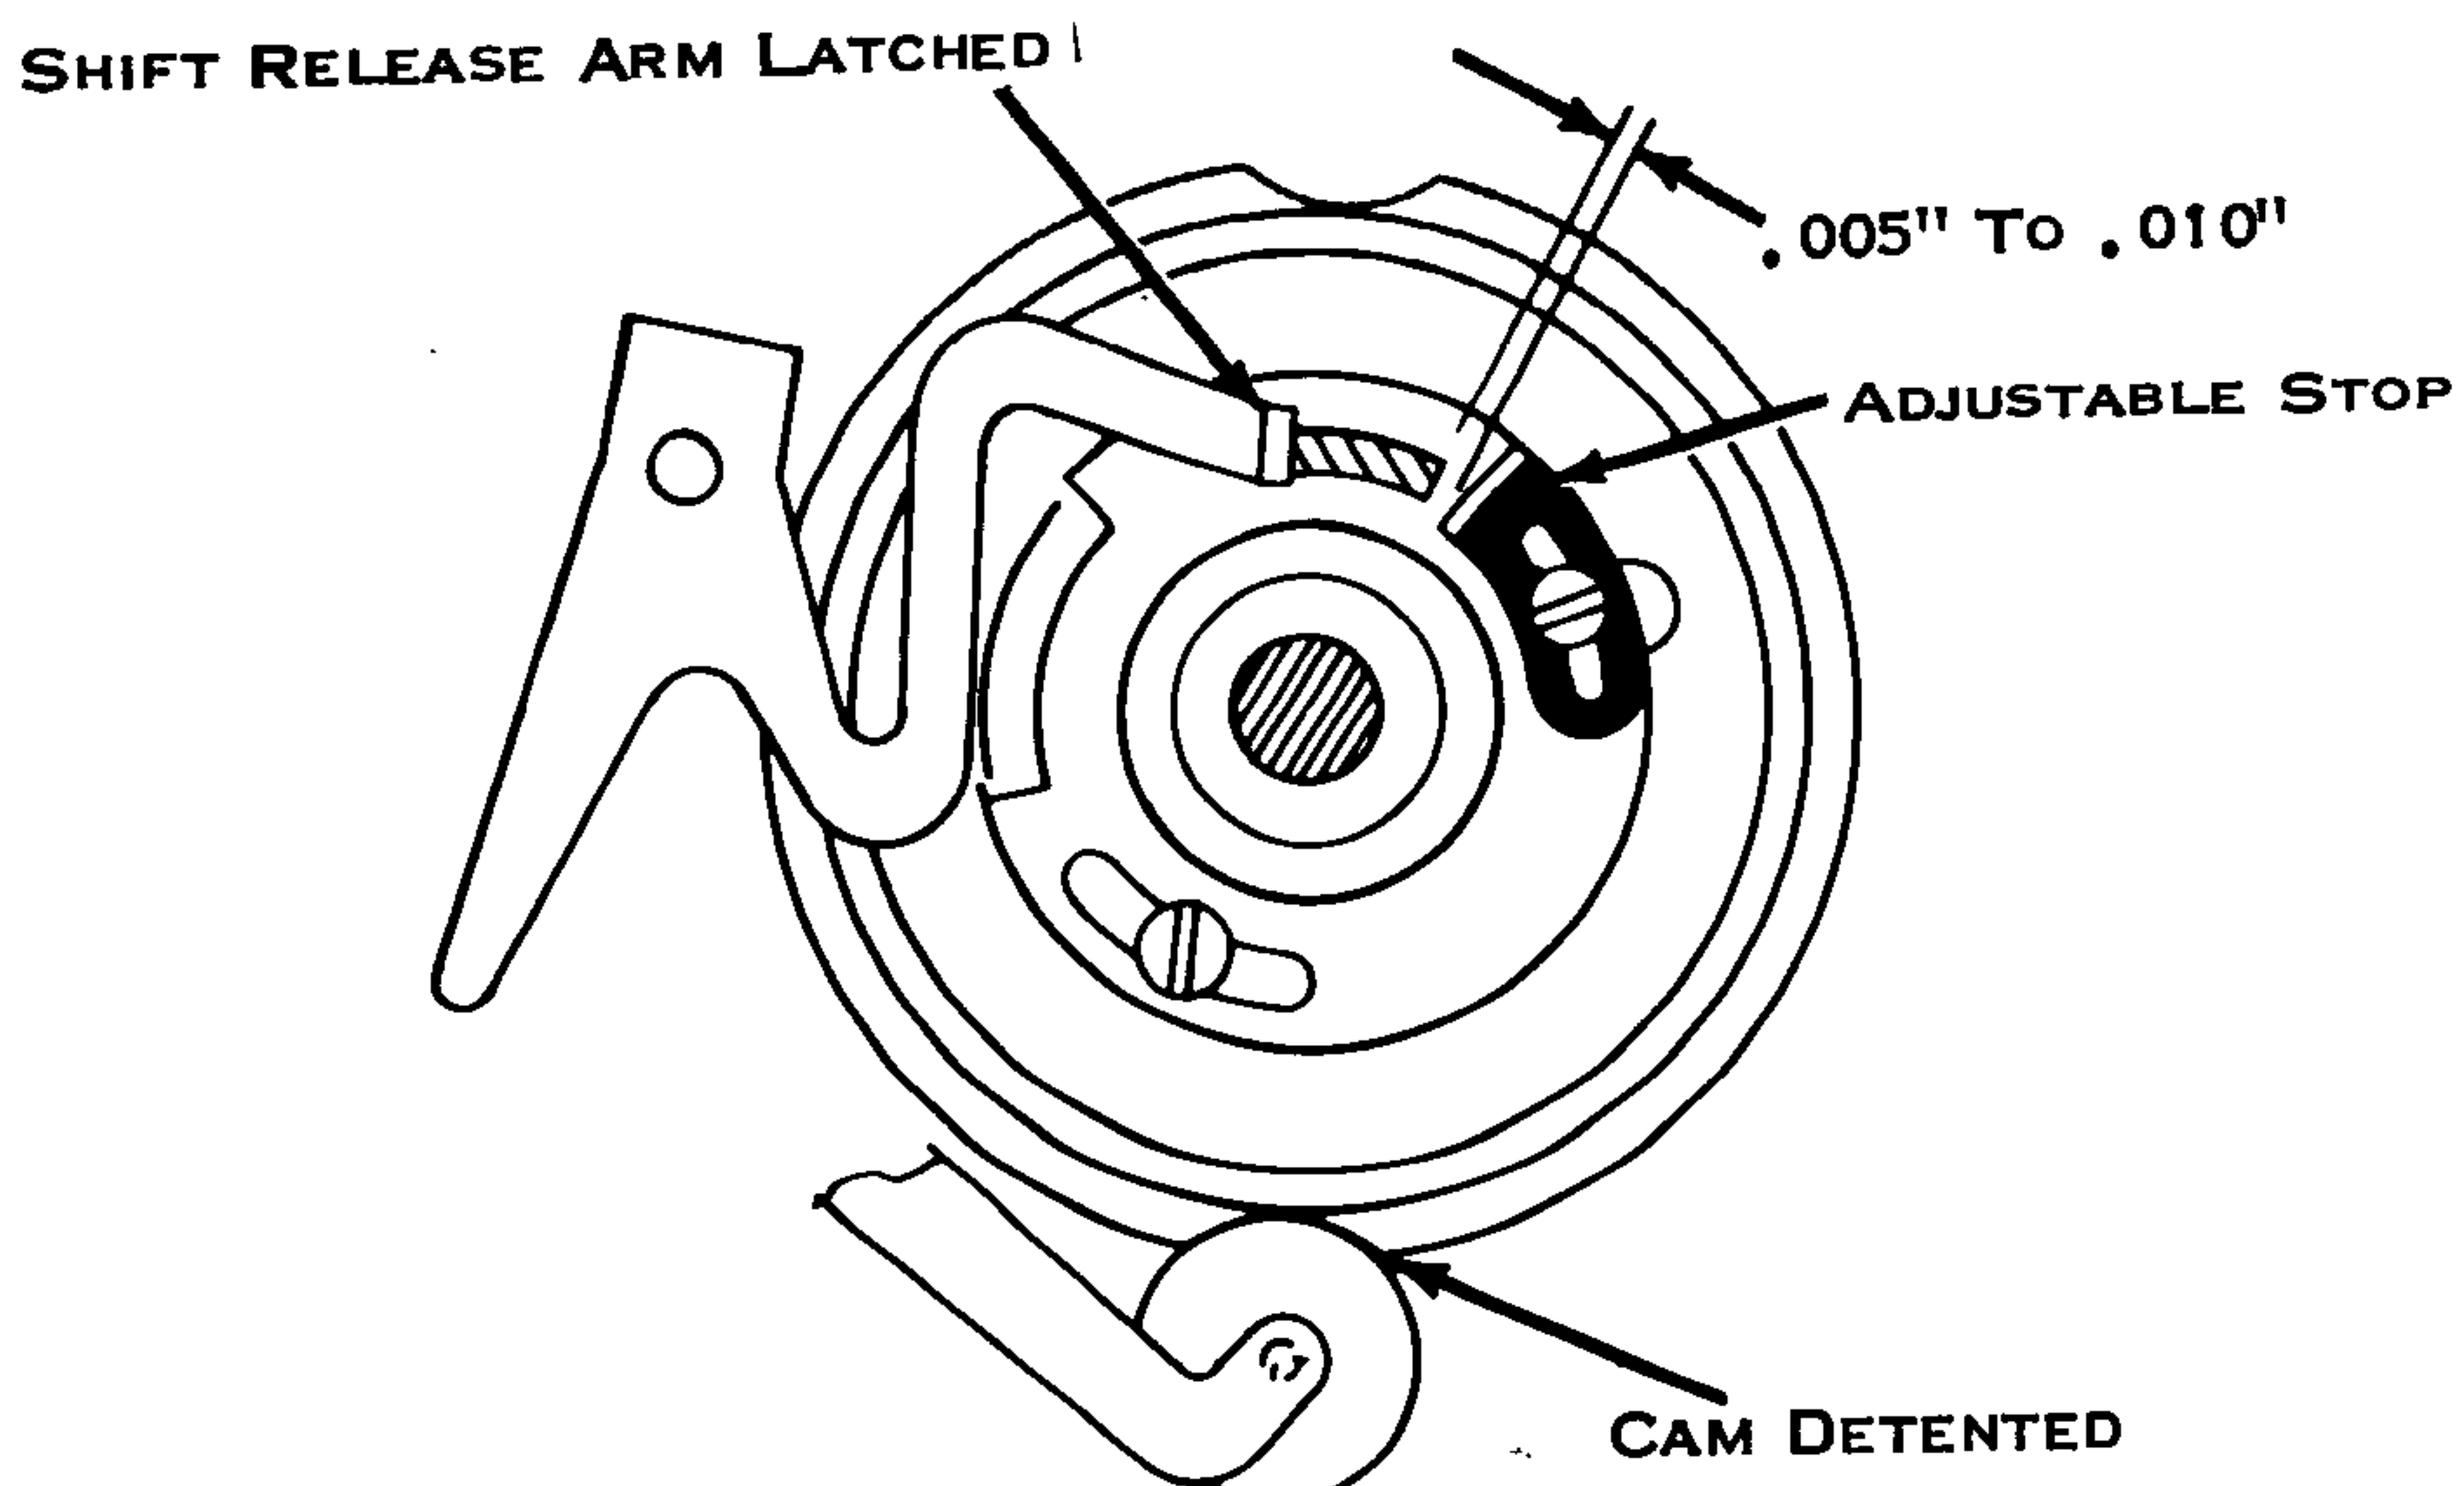

Figure 87. Shift Cam Stop
3. Shift Cam Stop (Fig. 87) - Adjust so that the shift clutch ratchet has  $.005''$  to  $.010''$  rotary motion between the shift cam stop and the shift release arm with the mechanism at rest. CAUTION - Be sure the cam is detented at the time the stop adjustment is checked.